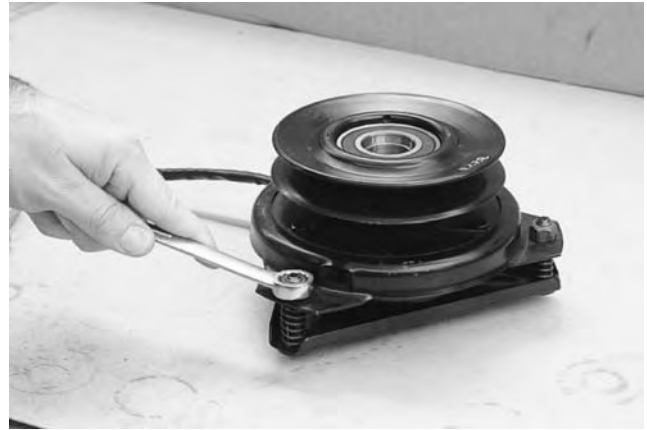

Figure 3-54.
- e. If the gap is incorrect, use a .017 feeler gauge and adjust the gap by tightening or loosening the three nuts on the clutch. See Figure 3-54.